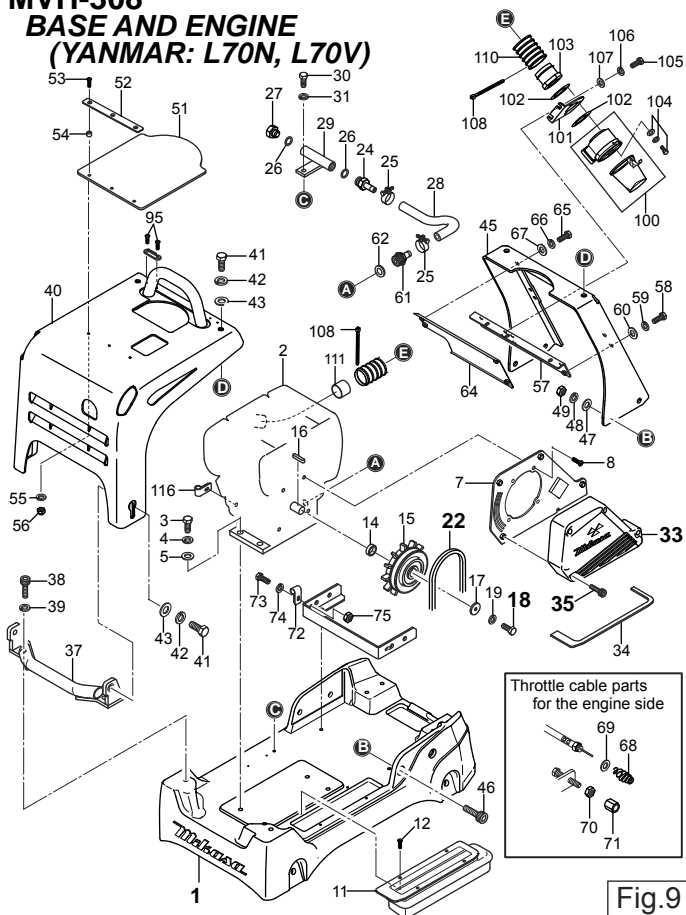

Fig.9
**(1) Disassembly**
- a. Remove 4 bolts (35), then remove the belt cover OUT (33). (Fig. 9)
- b. Remove the V-belt (22).
c. Remove 4 bolts of anti-vibration rubber that are fixing the engine base(1). then engine base and vibrating plate AY are separated by lifting the lifting hook on main body. (Fig. 9)